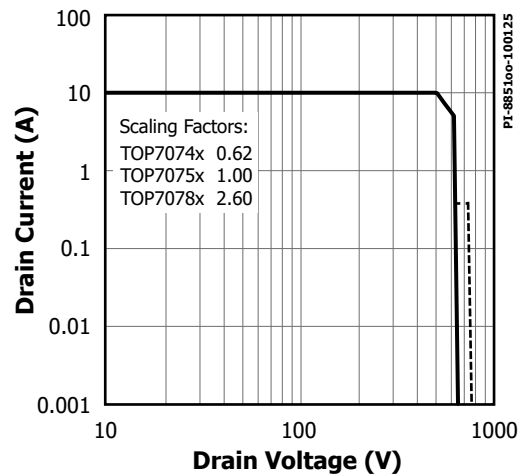

Figure 17. Maximum Allowable Drain Current vs. Drain Voltage.
3. Please refer to Figure 17 about maximum allowable voltage and current combinations.